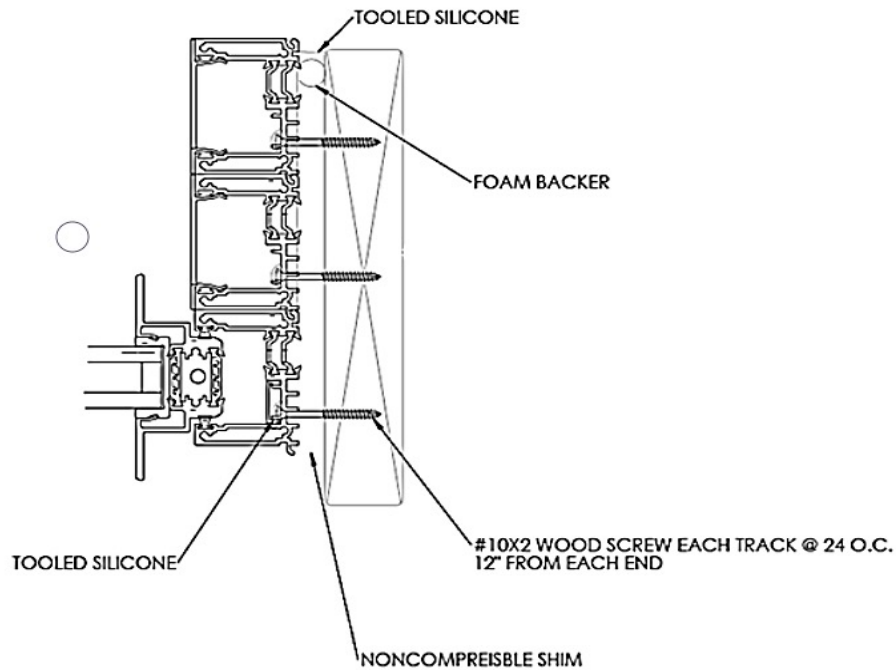

Figure 7
18. Shim the lock jamb/s as required to ensure they will be plumb and anchor to the structure through the additional holes using #10 X 2.5" flat head screws. See **Figure 7.**